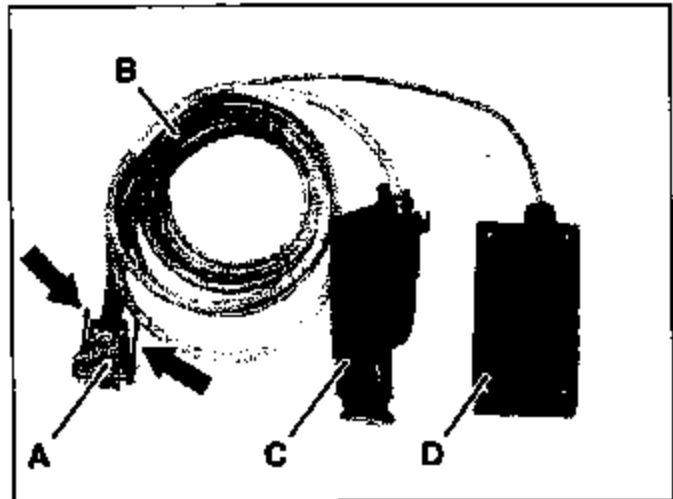
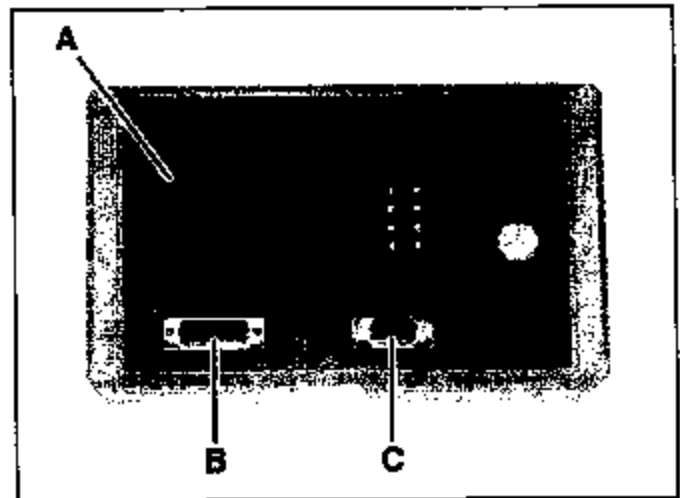

Figure 2
Figure 3
8. Connect adapter cable connector (A, Figure 2) to connector (B, Figure 3) on the SBC module box (A, Figure 3) and secure connector (A, Figure 2) using thumb screws (arrows).
The SBC module box (A, Figure 3) must be positioned in a location where the adapter cable (B, Figure 2) cannot come into contact with rotating engine parts.